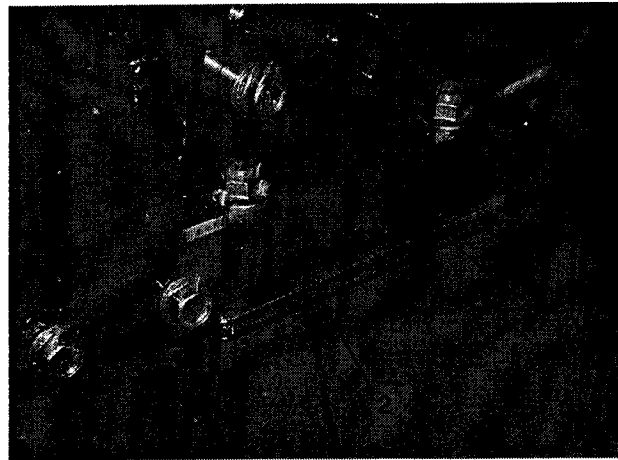

Figure 12
1. Remove height-of-cut bracket, (front, left, or right) from deck frame (Fig. 12).
2. Adjust .060 in. shims and/or .030 in. shim between the deck frame and bracket to achieve the desired height setting (Fig. 12).